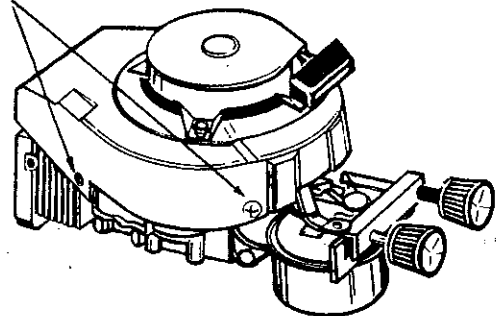

Figure 3
- (1) Remove the 4 screws that secure blower housing or combination air shroud-fuel tank to base. (See Figure 3).